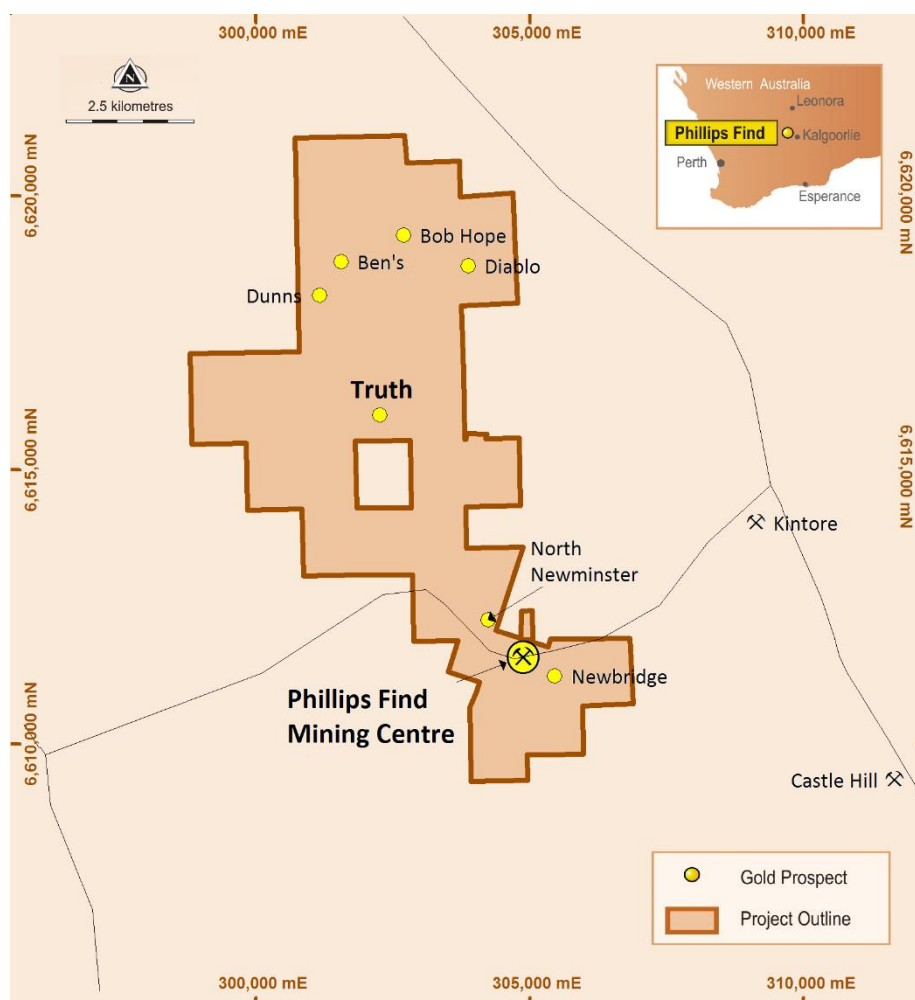

Figure 1 – Phillips Find Location Plan
In line with its gold strategy, Barra Resources Limited (Barra, the Company) has completed a first pass 338 hole, 9,669m Air Core (AC) drilling program at the Truth target area, within its Phillips Find Gold Project, 50km north of Coolgardie, Western Australia (Figure 1).